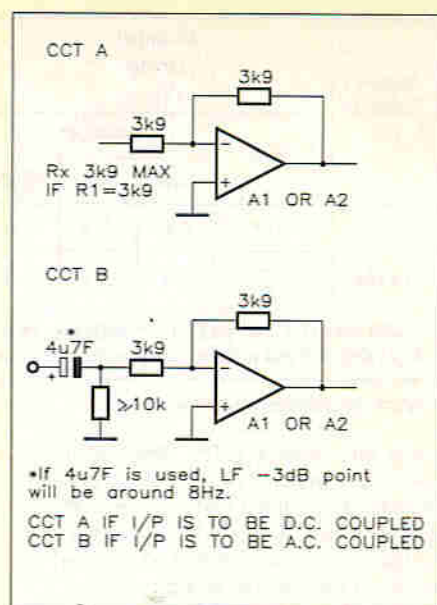

Figure 6. Modifying input stages of Monitor and Effects Module for 'stand-alone' use.
If the Monitor and Effects Module is being used with the Modular Mixing System, R1 should be 8k2 for a 6-channel system, or 3k9 for a 12-channel system. If the circuit is to be used on its own, then IC2(a) and IC2(b) must be fitted with input resistors as shown in Figure 6. This is so
with the aid of the nomograph of Figure 6, and a straight edge or ruler. By following the instructions described in the caption, it can be seen that a  $1k\Omega$  resistor when used with a 10V supply will pass 10mA and dissipate 100mW.
**Figure 6. To use this nomograph, lay a straight edge so that it cuts any two vertical columns at known reference points, then read off the remaining two unknown parameter values at points where the edge cuts the other two vertical columns.**